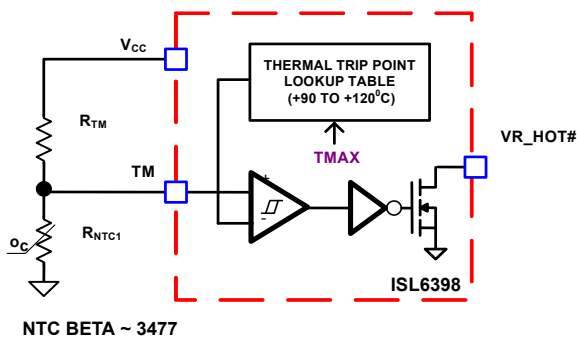
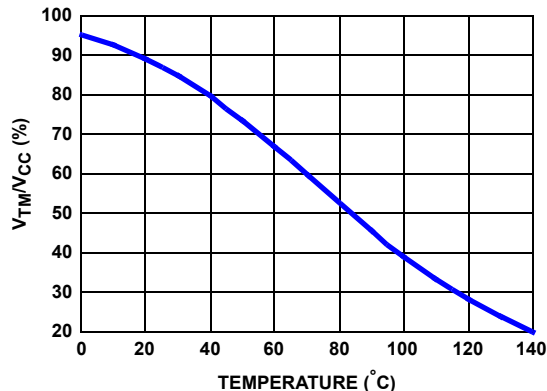

FIGURE 20. BLOCK DIAGRAM OF THERMAL MONITORING FUNCTION
FIGURE 21. THE RATIO OF TM VOLTAGE TO NTC TEMPERATURE WITH RECOMMENDED PARTS
The block diagram of thermal monitoring function is shown in Figure 20. One NTC resistor should be placed close to the respective power stage of the voltage regulator VR to sense the operational temperature, and pull-up resistors are needed to form the voltage dividers for the TM pins. As the temperature of the power stage increases, the resistance of the NTC will reduce, resulting in the reduced voltage at the TM pin. Figure 21 shows the TM voltage over the temperature for a typical design with a recommended 6.8kΩ NTC (P/N: NTHS0805N02N6801 from Vishay, b = 3477) and 1kΩ resistor R_{TM}. It is recommended to use those resistors for the accurate temperature compensation since the internal thermal digital code is developed based upon these two components. If a different value is used, the temperature coefficient must be close to 3477 and R_{TM} must be scaled accordingly. For instance, NTC = 10kΩ (b = 3477), then R_{TM} should be 10kΩ/6.8kΩ*1kΩ = 1.47kΩ.
There is a comparator with hysteresis to compare the TM pin voltage to the threshold set by the TMAX register (programmable via PMBus E8[2:0]) for VR_HOT# signal. With TMAX set at +100 °C, the VR_HOT# signal is pulled to GND when TM voltage is lower than 39.12% of V_{CC} voltage, and is open (pulled high through TM) when TM voltage increases to above 40.98% of V_{CC} voltage. The comparator trip point will be programmable by TMAX values. Figure 21 shows the operation of those signals.
Based on the V_{CC} voltage, the ISL6398 converts the TM pin voltage to a 6-bit TM digital signal for temperature compensation. With the non-linear A/D converter of ISL6398, the TM digital signal is linearly proportional to the NTC temperature. For accurate temperature compensation, the ratio of the TM voltage to the NTC temperature of the practical design should be similar to that in Figure 21.
When a different NTC type or different voltage divider is used for the TM function, the TCOMP voltage can also be used to compensate for the difference between the recommended TM voltage curve in Figure 21 and that of the actual design. If the same type NTC ($\beta = 3477$) but different value is used, the pull-up resistor needs to be scaled, as shown in Equation 20:
1. Properly choose the voltage divider for the TM pin to match the TM voltage vs temperature curve with the recommended curve in Figure 21.